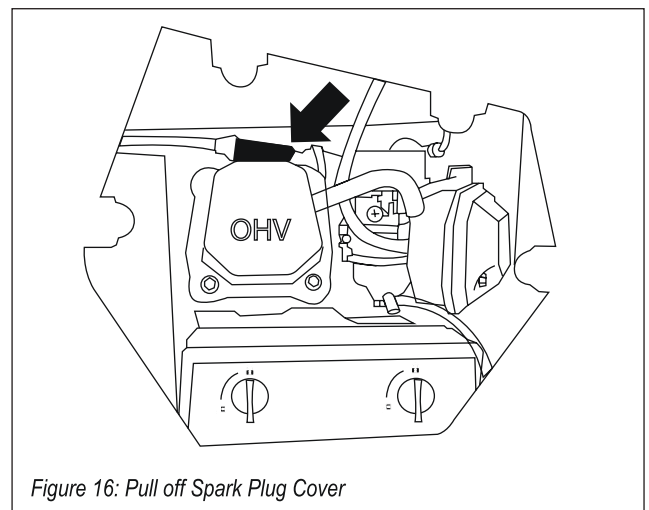

Figure 16: Pull off Spark Plug Cover
4. Remove the spark plug cover by firmly pulling the metal spark plug boot handle directly away from the engine (see Figure 16).